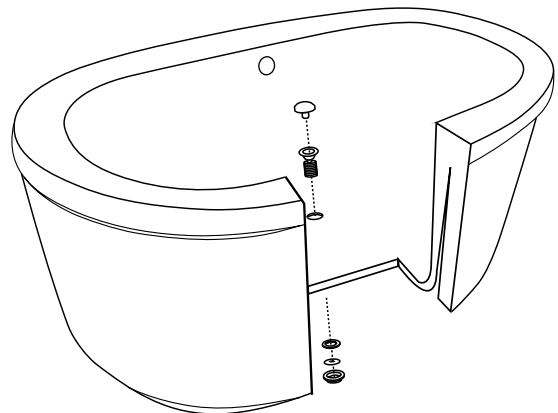

Figure 4
9. Attach the Drain Body Nut on the Drain Body and tighten until the Nut and Washer have created a seal with the bottom of the bathtub. DO NOT OVERTIGHTEN (figure 4).